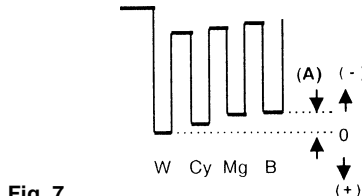

Fig. 7
- Adjust NTSC 3.58 Colour and bring the value of (A) of fig. 7 to 0V (voltage difference between white and blue).